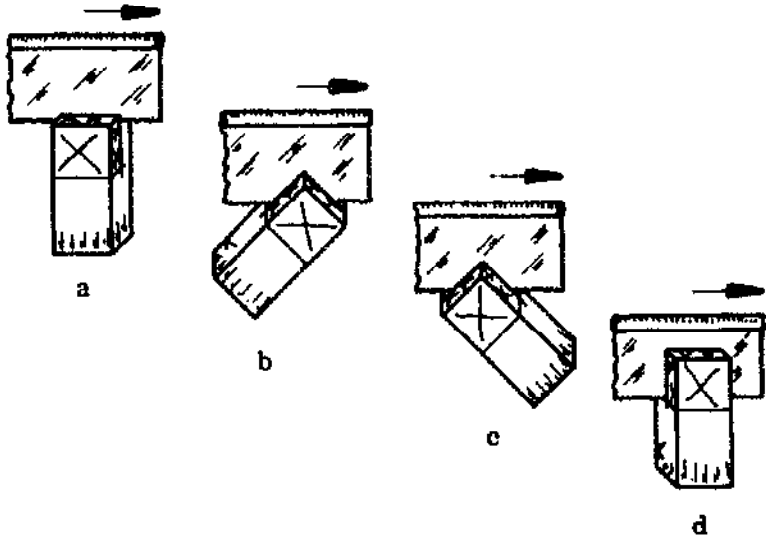

Fig. 6
- Saw the shoulder of the pin, keeping on the waste side of the line (Fig. 6).